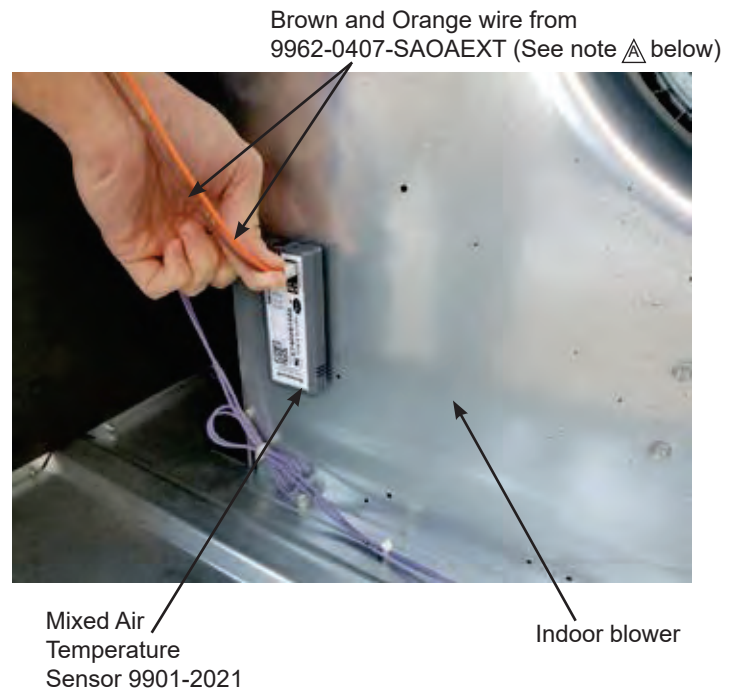

Figure 23 – Mount and connect Mixed Air Sensor
Step 33: Screw the 9901-2021 mixed air (MAT) sensor (Honeywell C7250) to the left side edge of indoor blower through pre-punched holes, see Figure 23. Confirm that the screws do not interfere with blower rotation. Connect the 2-pin plug from the 9962-0407-SAOAEXT harness to the MAT sensor. See Figures 23 and 26.
Step LC8. Mount the provided 9901-2021 mixed air temperature (MAT) sensor (C7250) to the indoor blower. Con irm that the screws do not interfere with blower rotation. See Figure 23.